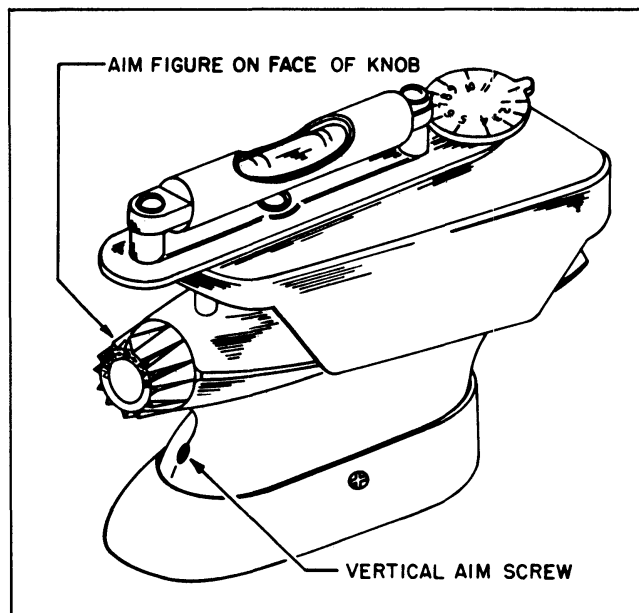

Fig. 12-28 Aiming Device Installed
4. Set aiming device No. 6 on top of phototube unit (Fig. 12-28).